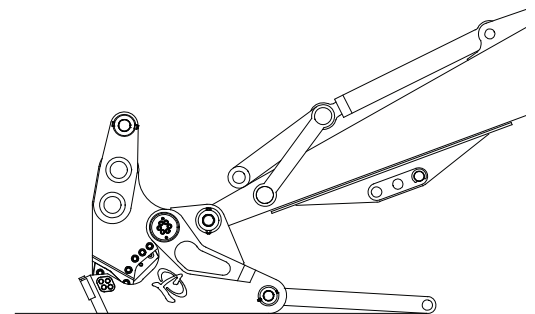

FIGURE 3-10
3. Lower the excavator stick until the BLS shear rests flat on the ground as shown in figure 3-10.